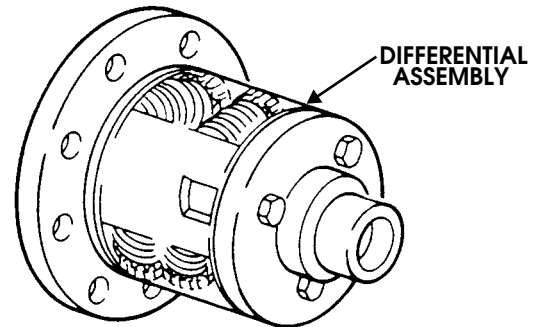

Figure 9-77: Differential Assembly
5. Inspect differential assembly case for damage (Figure 9-77).